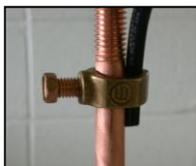

Figure 19: The #4 cable connected to the ground rod.
6. Attach the other end of the #4 cable to the ground rod using the ground rod coupling (Figure 19).